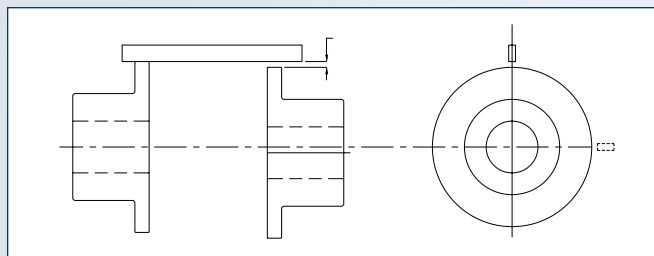
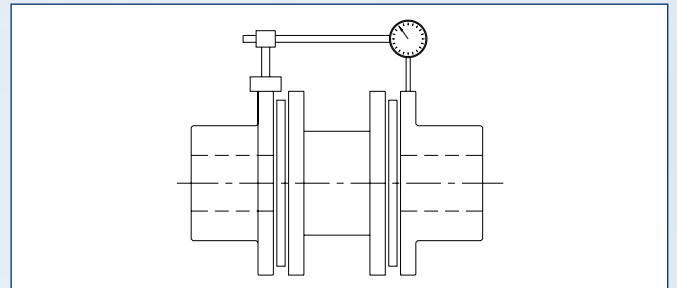

Fig. 6
Fig. 7
1. Initial parallel alignment can be checked by using a straight-edge across the hub flanges (per Fig. 6, page 61) to measure the approx. distance (r) as shown in Table 6. A more precise method is using the dial indicator whereby the parallel off-set is measured in at least two places 90 degrees apart while rotating one hub. This is shown in Fig. 7, page 61.